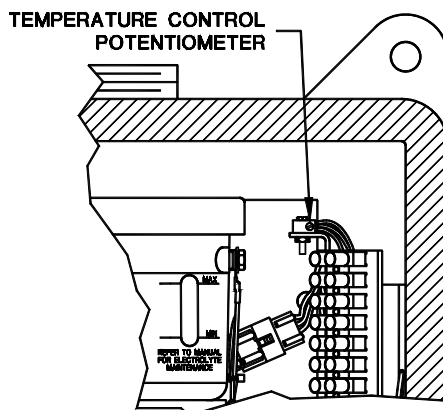

Figure 23: NEMA 7 Enclosure Temperature Control
- 4) Locate the temperature control potentiometer on the circuit board in the enclosure above the terminal strip. See Figure 23 Turn it clockwise to increase the temperature and counter-clockwise to decrease it. After each adjustment re-cover the enclosure and allow at least an hour for it to stabilize at the new temperature.